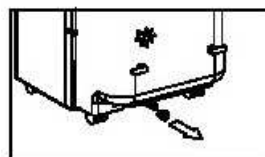

Fig.18
- Remove the rubber plug at the back of unit and attach a hose to drain outlet. Place the open end of the hose directly over drain area; or have a container placed under the spout. Allow water to drain out. (Fig.18)